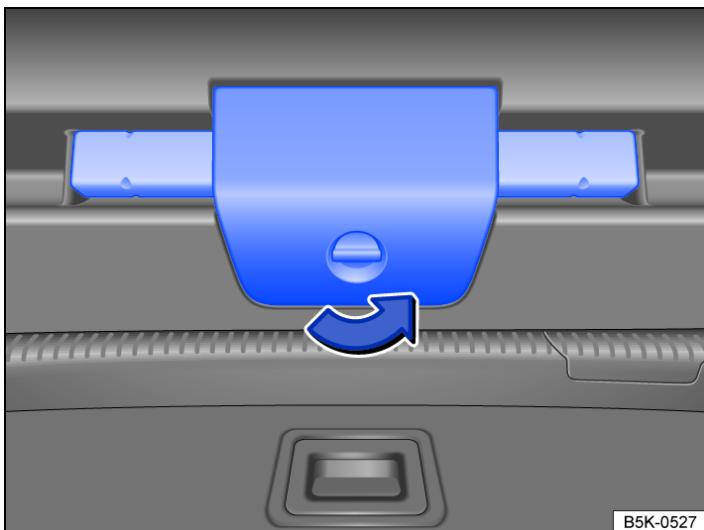

Fig. 1 In the boot lid: open the holder for the warning triangle.
- Turn the lock of the warning triangle holder 90° anticlockwise → *Fig. 1*.